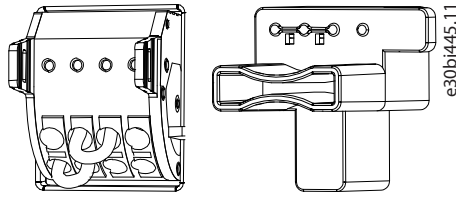

Figure 17: Wired Terminal Block (on the Left) and STO Jumper Clip (on the Right)
- Wire the terminal block as shown in Figure 17, or use the STO jumper clips from the accessory bag, and mount them on X31